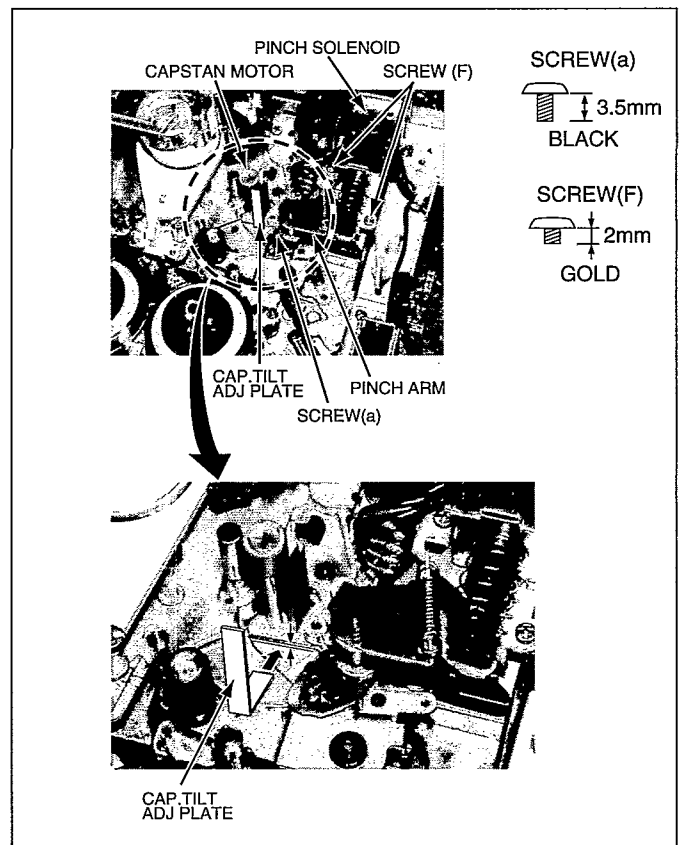

Fig. M-13
3. Turn the adjustment screw (a) to clockwise direction slowly until the Capstan Motor just touch to the Cap. Tilt Adj. Plate as shown in Fig. M-13.